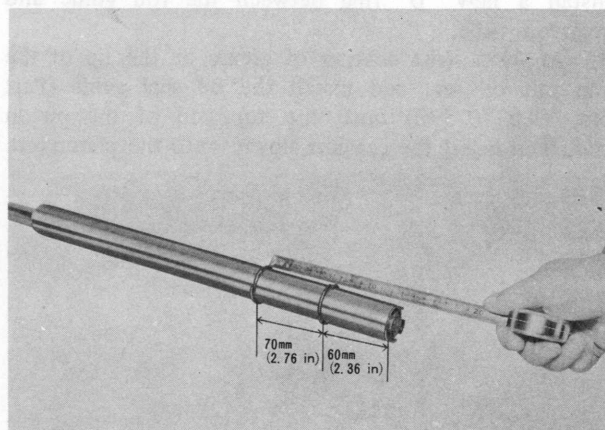

Fig. 13-34 Installing oil stop rings
11. Install the two oil stop rings onto the bottom side of the pressure tube as shown in Fig. 13-34.